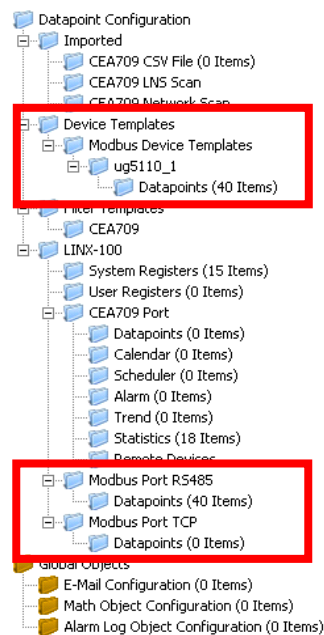

Figure 139: Data Point Manager Dialog with Modbus folder list.
- The folder list (Figure 139),